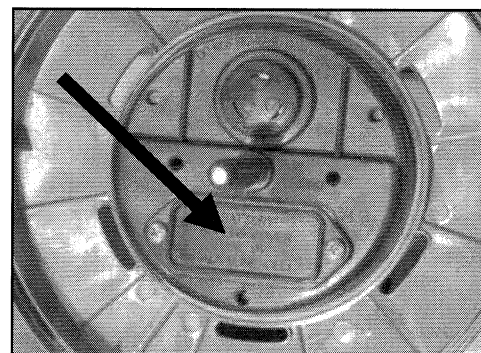

Figure 1 Battery Cover
- 2) Once the floatation base is off locate the battery cover (Figure 1). Remove the two screws and lift off the battery cover and gasket exposing the 9V battery clip.